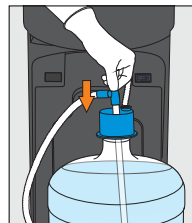

Figure 7
- (8) Push probe down until the tube hits the bottom of bottle (Figure 7)